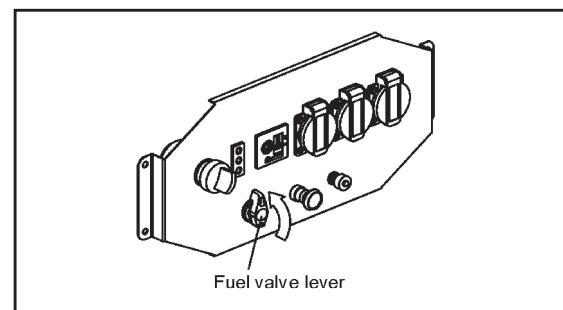

Fig.6 Fuel valve lever opening view
4.1 Turn the fuel valve lever to the ON position, see fig. 6.